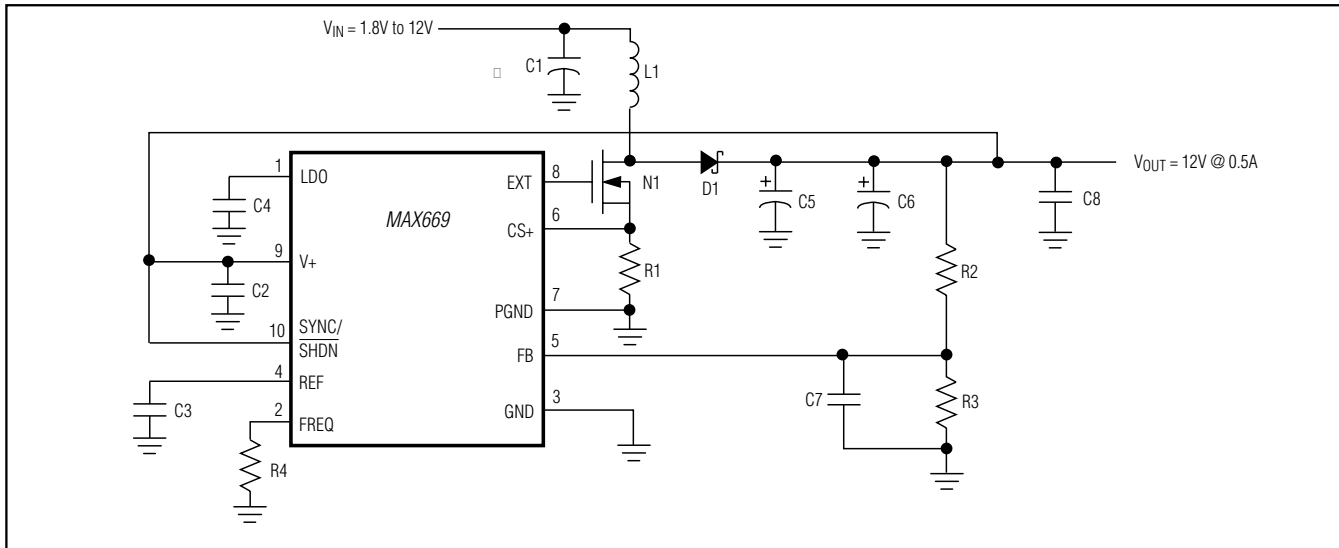
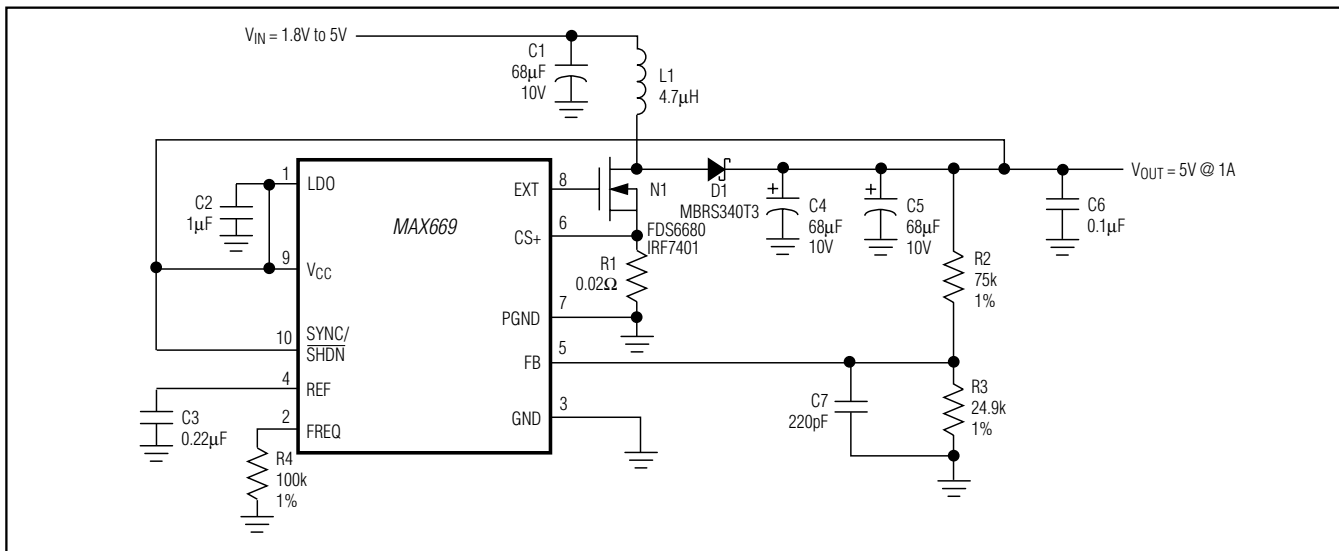

Figure 2. MAX669 High-Voltage Bootstrapped Configuration
Figure 3. MAX669 Low-Voltage Bootstrapped Configuration
(Circuits of Figures 2, 3, 4, and 5; $T_A = +25^\circ\text{C}$; unless otherwise noted.)
V_{CC} and LDO allow a variety of biasing connections to optimize efficiency, circuit quiescent current, and full-load start-up behavior for different input and output voltage ranges. Connections are shown in Figures 2, 3, 4, and 5. The characteristics of each are outlined in Table 1.
With V_{CC} connected to V_{OUT} , as in Figure 2, EXT voltage swing is 5V when V_{CC} is 5.2V or more, and $V_{CC} - 0.2V$ when V_{CC} is less than 5.2V. If the output voltage does not exceed 5.5V, the on-chip regulator can be disabled by connecting V_{CC} to LDO (Figure 3). This eliminates the LDO forward drop and supplies maximum gate drive to the external FET.
* For standard step-up DC-DC circuits (as in Figures 2, 3, 4, and 5), regulation cannot be maintained if V_{IN} exceeds V_{OUT}. SEPIC and transformer-based circuits do not have this limitation.
The output voltage is set by two external resistors (R2 and R3, Figures 2, 3, 4, and 5). First select a value for R3 in the 10k Ω to 1M Ω range. R2 is then given by: